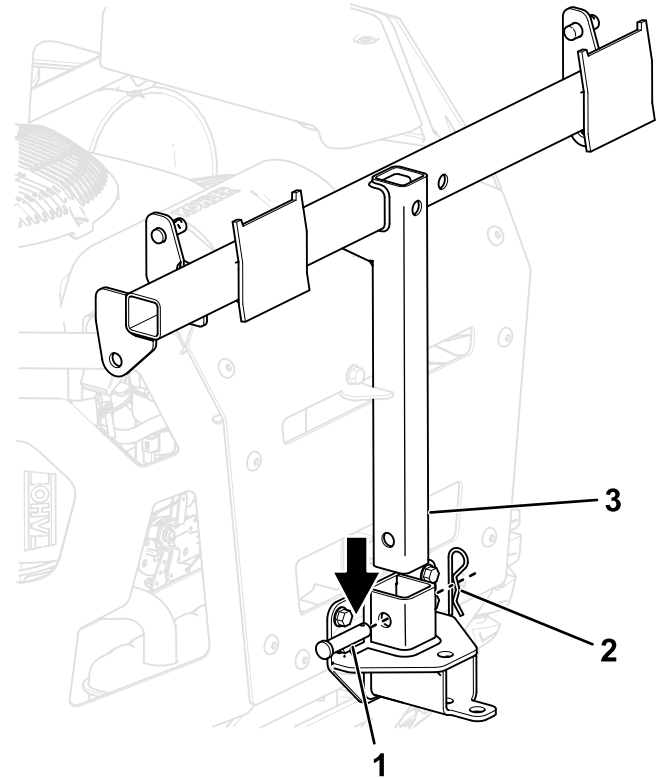

Figure 15
4. Install the bagger frame to the bagger mount bracket using the long clevis pin and a hairpin (Figure 15).